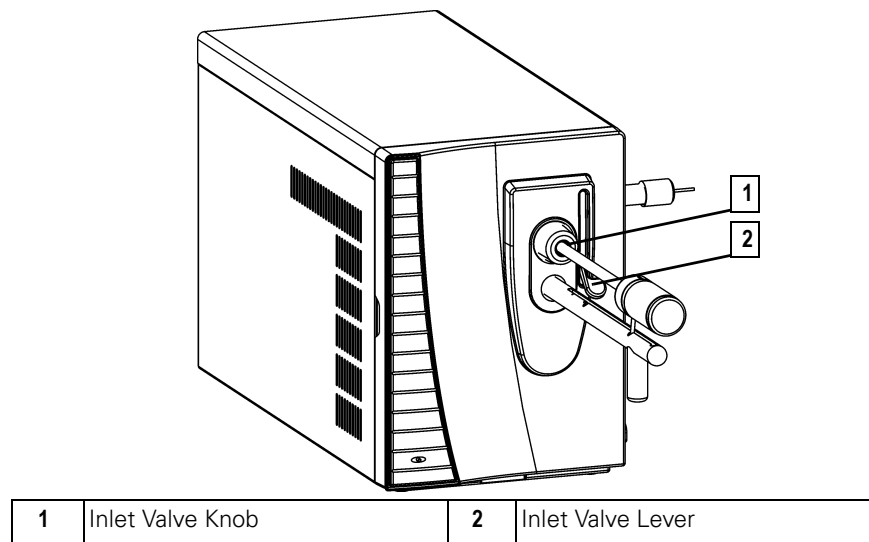

Figure 2-12. I/R Tool Ready to be Inserted
- a. Slide the **I/R Tool (1)** until the **Guide Ball (2)** is slightly beyond the **Second Stop (4)**.
- b. Turn the **I/R Tool Handle (1)** counterclockwise to the **Hold Position** . Listen for a "click".
- c. Withdraw the **I/R Tool (1)** until the **Guide Ball (2)** reaches the **First Stop (3)**.
- d. Push the **Inlet Valve Lever** (Figure 2-12) down to close it.
- e. Loosen the **Inlet Valve Knob** (Figure 2-12).